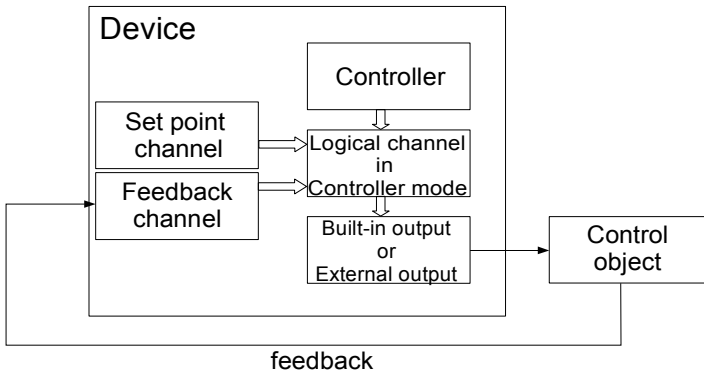
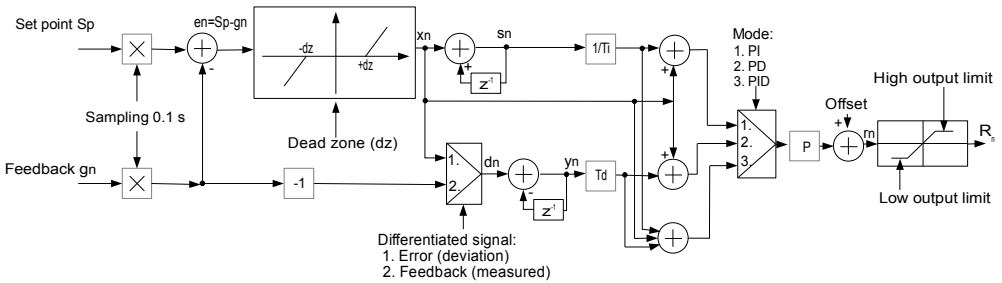
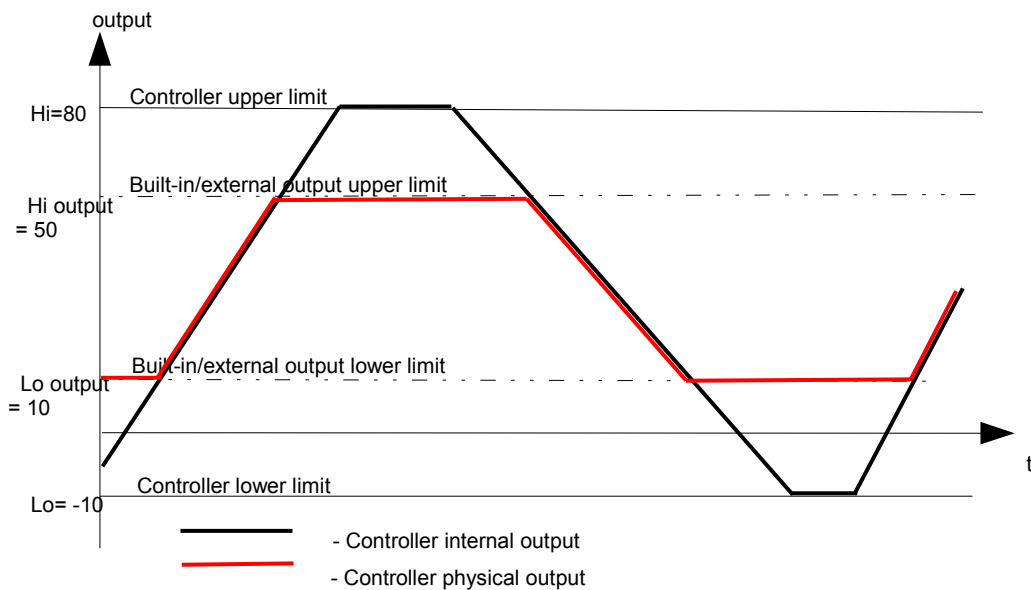

Fig. 7.119. Block diagram of the control loop of the object by MultiCon
Fig. 7.120. Block diagram of the **Controller** implemented in the device
Fig. 7.124. Control loop output limitation
- **Differentiated signal** - this parameter is available for the **PD** and **PID** mode and allows the selection of the option (see **Fig. 7.119** and **Fig. 7.120**):
**Note!** After offsetting the output signal the output value is limited to the range set in **Low output limit** and **High output limit** parameters (see Fig. 7.120),
Fig. 7.119 shows the block diagram of a control process of an object with the **Controller** implemented in the device. Set the setting of the selected Controller to be connected to the **Logical channel** operating in the **Controller** mode. In this **Logical channel**, select the **Set point channel** and the **Feedback channel**, which store the data required to control the object. Respectively, the **Set point channel** contains a destination value of the process,
In the **Fig. 7.124** an exemplary diagram of the output values of the control loop is presented. The diagram shows the double limitation of the control loop supplied to the object. The first limitation with a black line results from the output parameters of the Controller (logic channel output value in the controller mode, see **Fig. 7.119**), and the second limit marked with a red line results from the parameters built-in/external outputs (value transferred to controlled object, see **Fig. 7.119**).